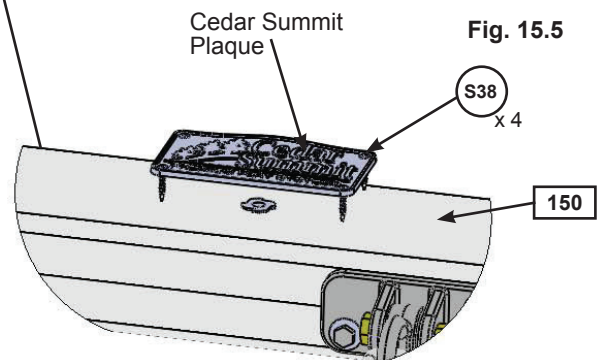

Fig. 15.5
D: Attach Cedar Summit Plaque to centre of (150) Engineered SW Beam (over top of t-nut) using 4 (S38) #7 x 1-1/8" Pan Screws. (fig. 15.5)